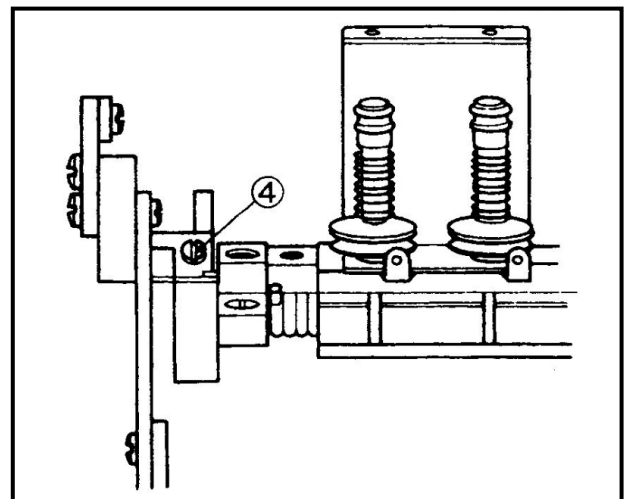

Fig.10
(1) 放開提昇擺臂（大）的螺絲④。(Fig.10)
(1) Loosen the screw④ of the presser bar lifter lever (large).(Fig. 10)